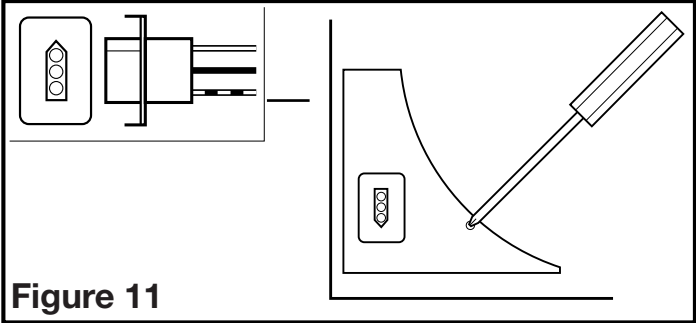

Figure 11
2. Reinstall the fan's wire compartment cover. Rotate the blower wheel by hand to ensure it spins freely. Plug the fan's quick connect motor cord into the receptacle. This cord will only fit one way into the receptacle (Figure 11).